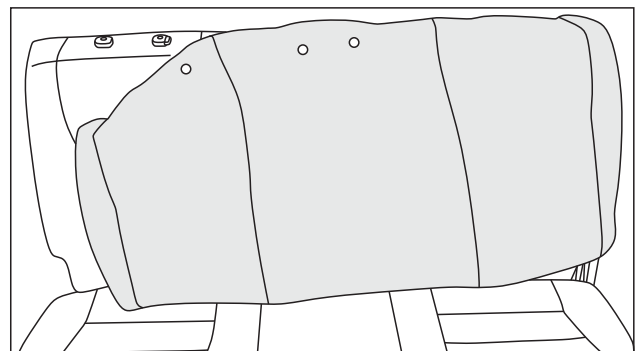

Fig. 2
2. Tilt seat backrest forward and place backrest cover over the seat backrest (Fig. 2) .